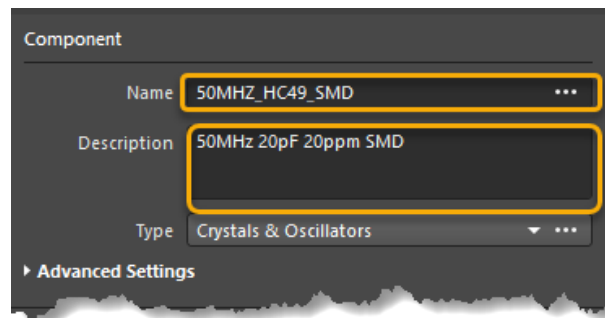

Figure 5. Component Name and Description
7. At the top of the *Component* section (see Figure 5 below), add the following information: